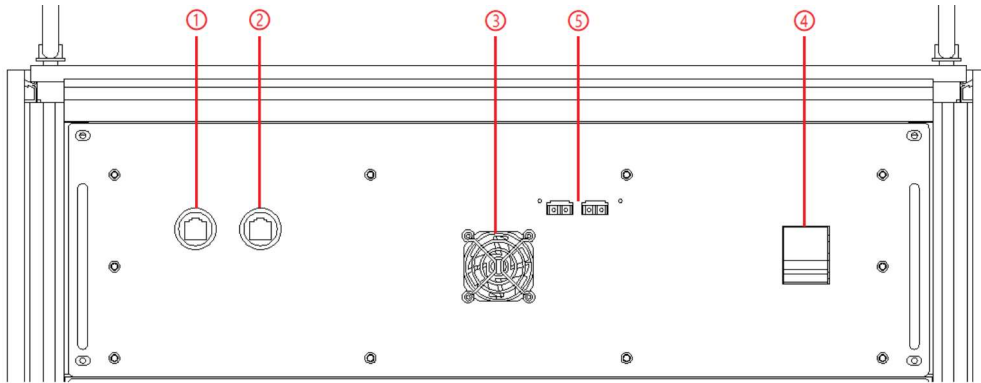

Figure 1-22
The Master-Slave interface is located on the front panel of control module (Figure 1-22-⑤) .